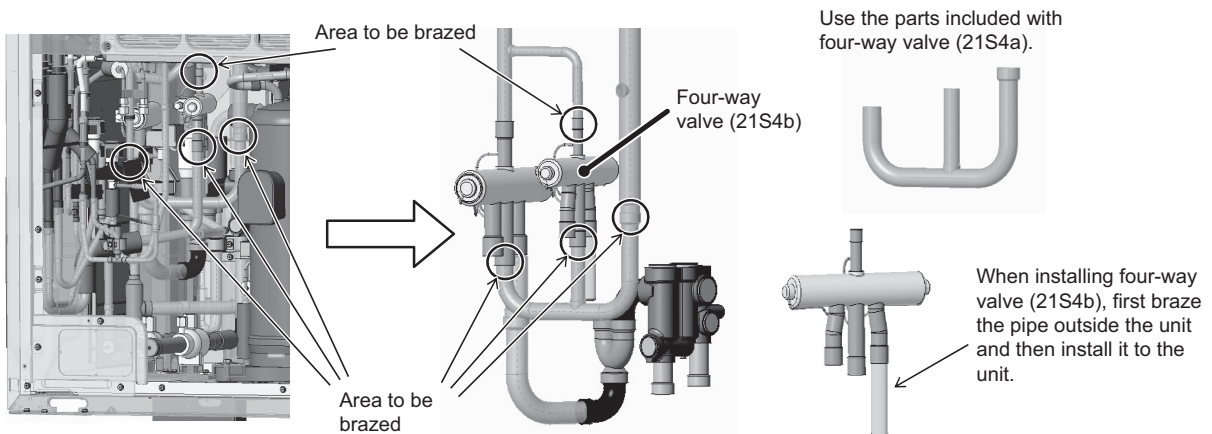

Figure 19
- (19B) Mount four-way valve (21S4b) to the pipe below four-way valve (21S4b) and in the middle. A total of five areas require brazing, including the area indicated in (18B) and the areas indicated in Figure 19. Mount four-way valve (21S4b) horizontal to four-way valve (21S4a) as shown in (10A).